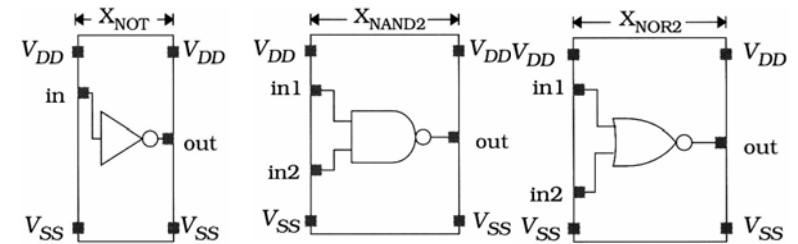

Figure 5.26 Logic gates as basic cells
- A function using unit gate of Figure 5.26